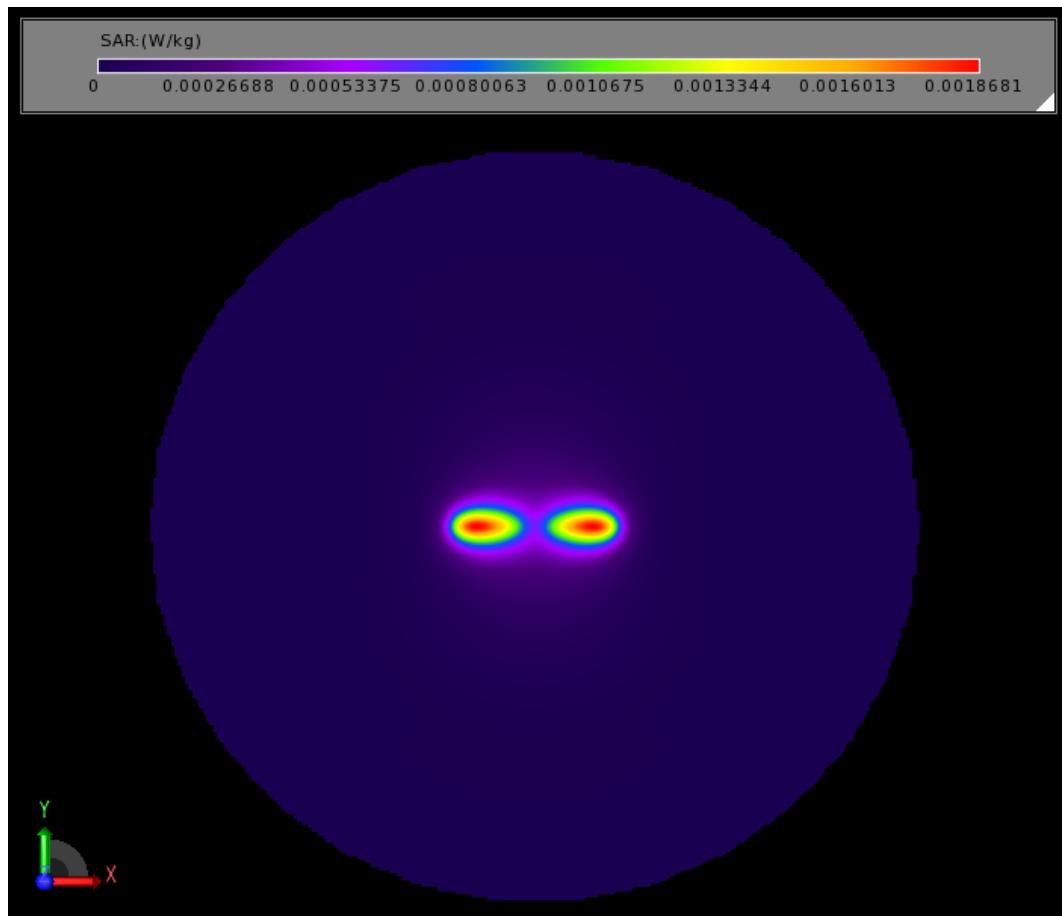

Figure 8.20: SAR sensor data
- Toggle the PARTS VISIBILITY to turn off the display of the geometry, and select the TOP (+Z) orientation. The SAR image shown in Figure 8.20 should appear.